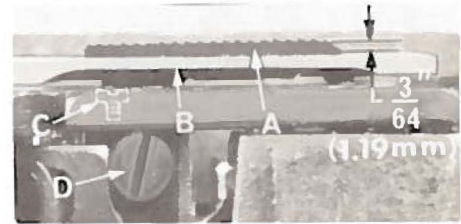

Fig. 11
Set the feed dog (A, Fig. 11) in the throat plate (B) so there is equal clearance on all sides. See that the tips of the teeth extend the depth of a tooth or approximately  $\frac{3}{64}$  inch (1.19 mm) above the throat plate and are parallel with the throat plate at high point of travel. Adjust the supporting screw (C), under the feed dog, to maintain this setting. Screw (D) is used to hold feed dog in position.